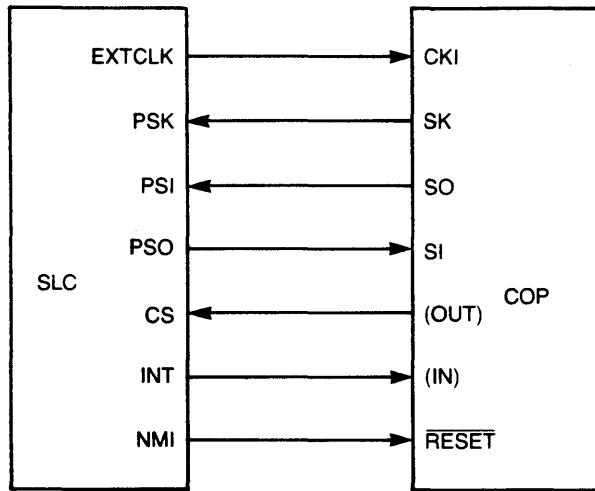
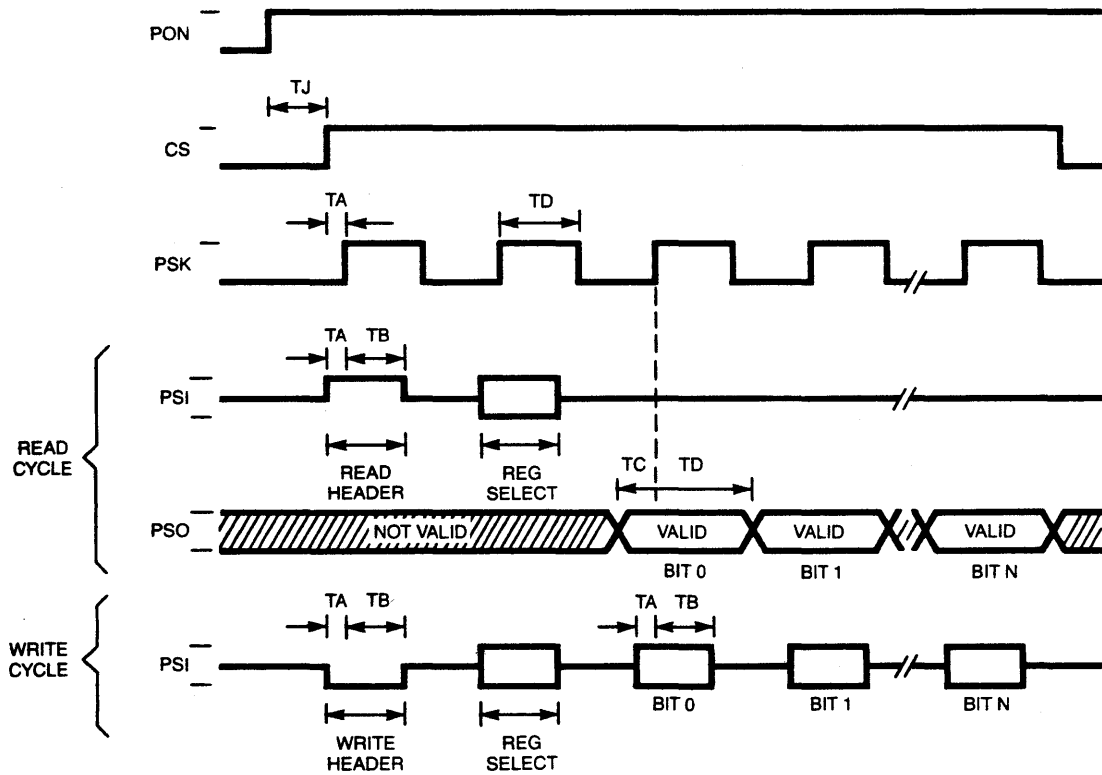

Figure J-4. Processor Interface
Figure J-5. Processor Interface Timing
The processor interface is intended to be connected directly to the serial MICROWIRE (TM) interface of a National COPS (TM) microcomputer. Specifically, members of the COPS 400, 410, 420, 440, and 2440 families may be directly interfaced to the serial SLC. The COP 422 will be most commonly used. It is possible to interface other processors to the SLC if these processors provide signals which emulate the MICROWIRE (TM) interface as shown in Figure J-4. The timing for the SLC and processor interface is shown in Figure J-5.